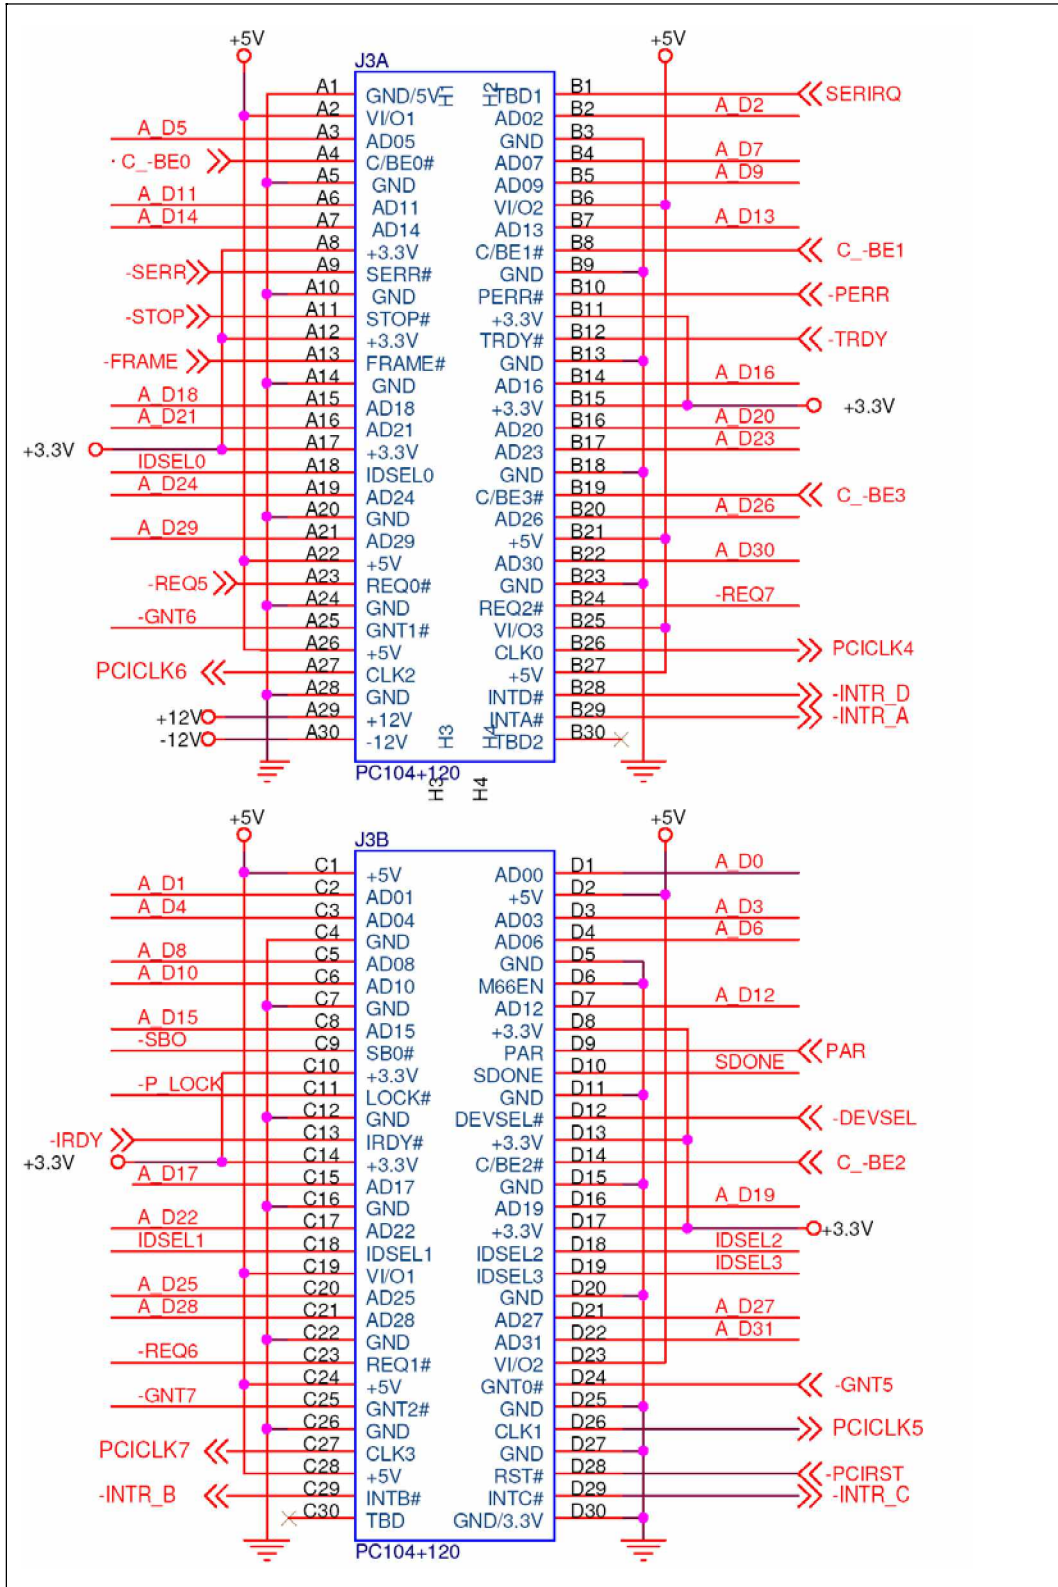

Figure 4-10: PCI-104 Slot Location
- CN Location:** See Figure 4-10